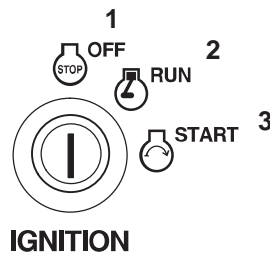

Figure 6
6. Turn ignition key to “START” to energize starter. When engine starts, release key (Fig. 6).
- Turn the ignition key to “OFF” and remove (Fig. 6).